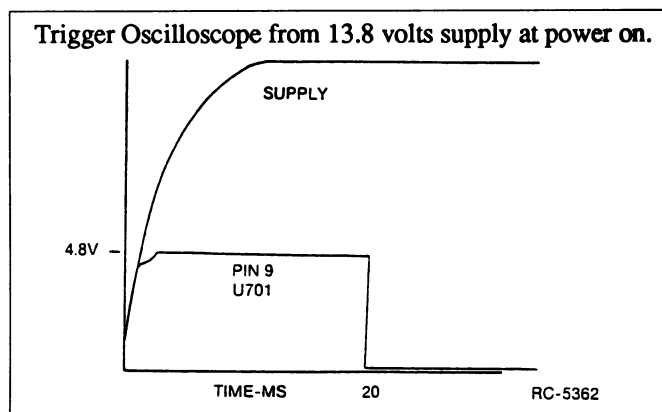

FIGURE 2 - RESET WAVEFORM
2. Check Power-On Reset on U701, Pin 9 (see Figure 2). If not present, check regulator U705, Pin 2 and transistor Q704.